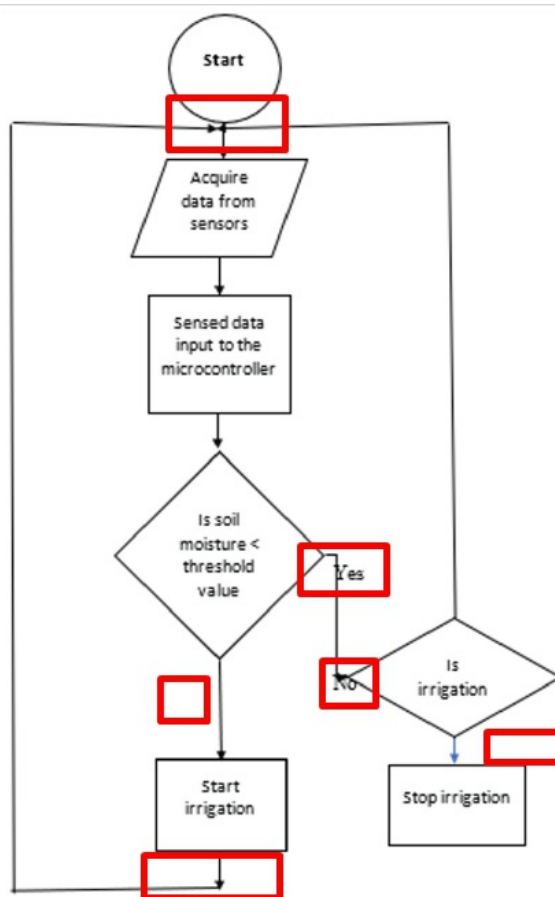

Figure 24. The algorithm flowchart of the system
5. Referring to Figure 24, all the red boxes are wrongly inserted. Suppose the arrow after 'Start irrigation' is connected to the decision block 'Is irrigation'. For the decision block 'Is soil moisture <threshold value', if the answer is Yes, suppose the arrow goes to the block of 'Acquire data from sensors'.